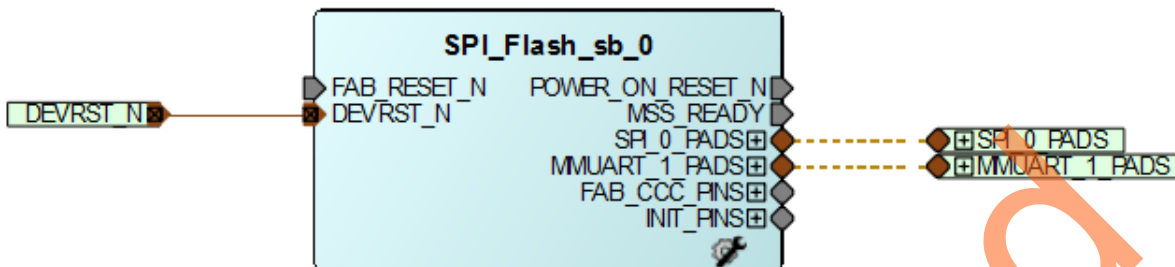

Figure 11 • SPI\_Flash Smart Design
19. Select **File > Save** to save **SPI\_Flash**. Select the **SPI\_Flash** tab on the Smart Design canvas, as shown in Figure 11.